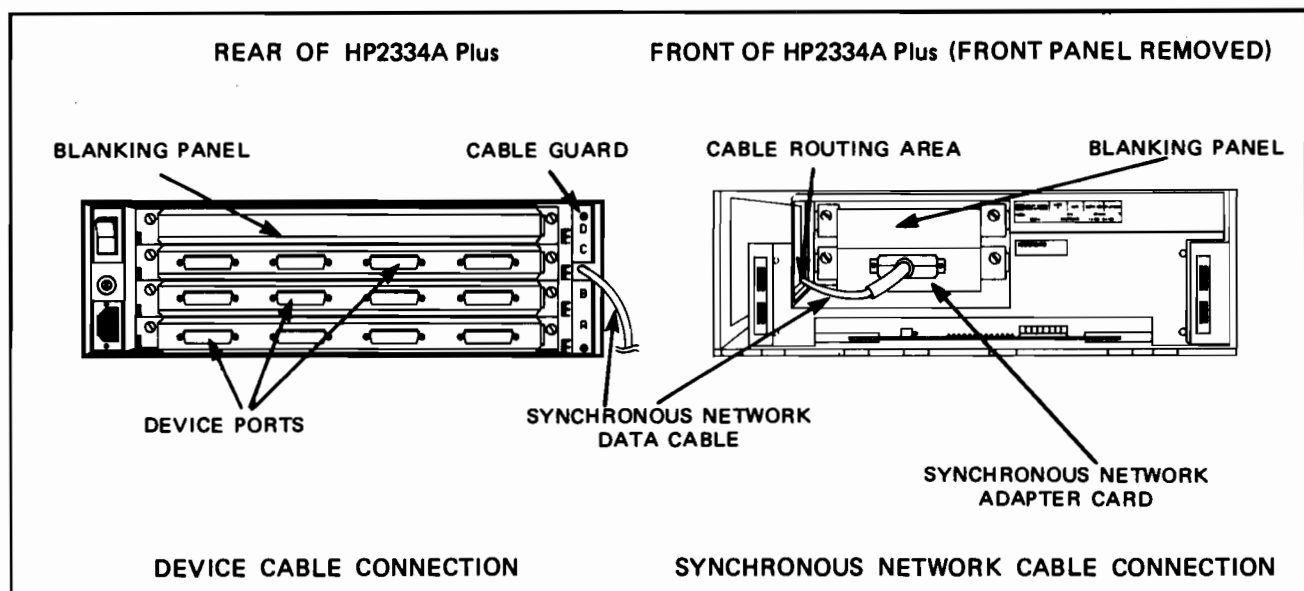

Figure 4-8 HP2334A Plus to Device and Synchronous Network Connection
When the HP2334A Plus has passed its power-on and switches tests (if required), it may be connected to the synchronous network. This is achieved by connecting the supplied HP2334A Plus-to-synchronous network modem cable to the Synchronous Network Adapter Card (as shown in Figure 4-8) and the synchronous network (or PSN) modem.
- 3) At the rear right-hand side of the HP2334A Plus, remove the cable guard (marked D, C, B, A and containing a slot) that is attached to the HP2334A Plus cabinet by two cross-head screws, see Figure 4-8.
- 4) Pass the connector of the HP2334A Plus-to-synchronous network modem cable into the data cable routing area (behind the cable guard), as shown in Figure 4-8. This cable (part number: 02333-60008) is supplied with the HP2334A Plus.
- 5) From the front of the HP2334A Plus, carefully pull the cable through the data cable routing area and then plug the data cable connector into the Synchronous Network Adapter Card connector (see Figure 4-8) and secure it in position by tightening the two locking screws.